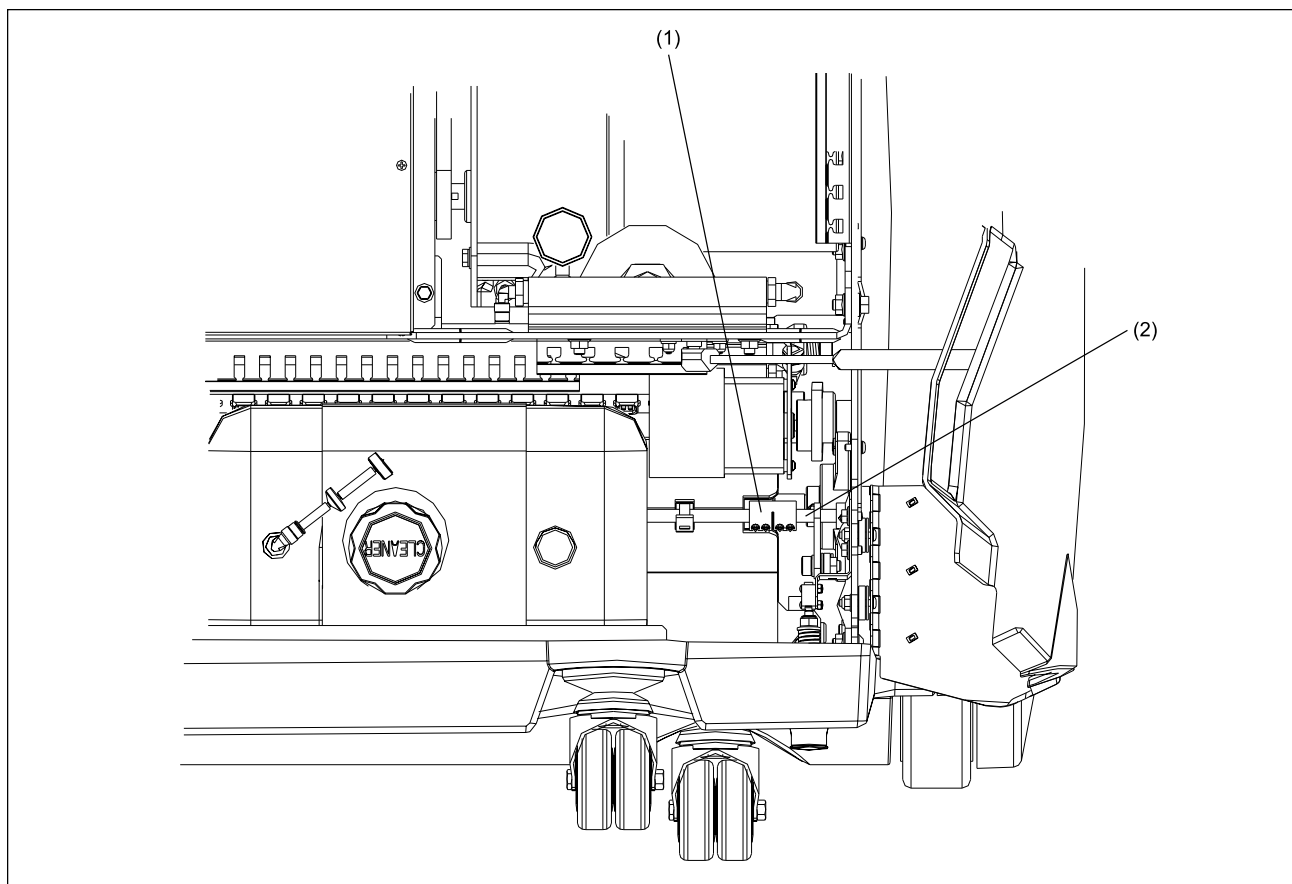

Figure 5-19. Collar
13. Locate the collar, on the 10-pin side, inside of the machine in the conditioning compartment (found directly under the dispersion roller motor) that holds the two sides of the brush lifting shaft. Refer to Figure 5-19.